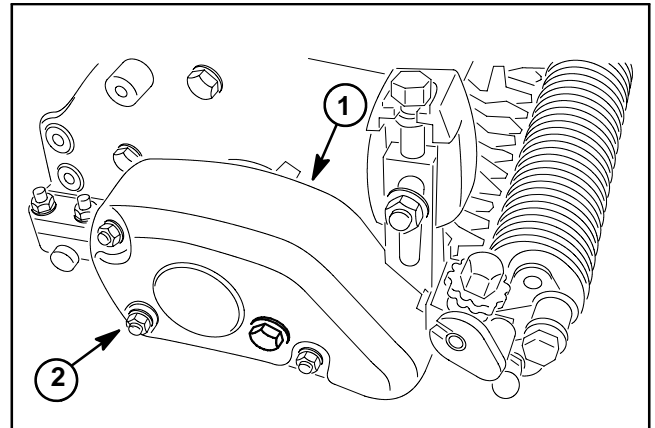

Figure 2
2. Remove three (3) lock nuts that secure groomer drive cover, then remove cover (Fig. 2).
5. Secure belt cover to machine with three (3) lock nuts (Fig. 2).